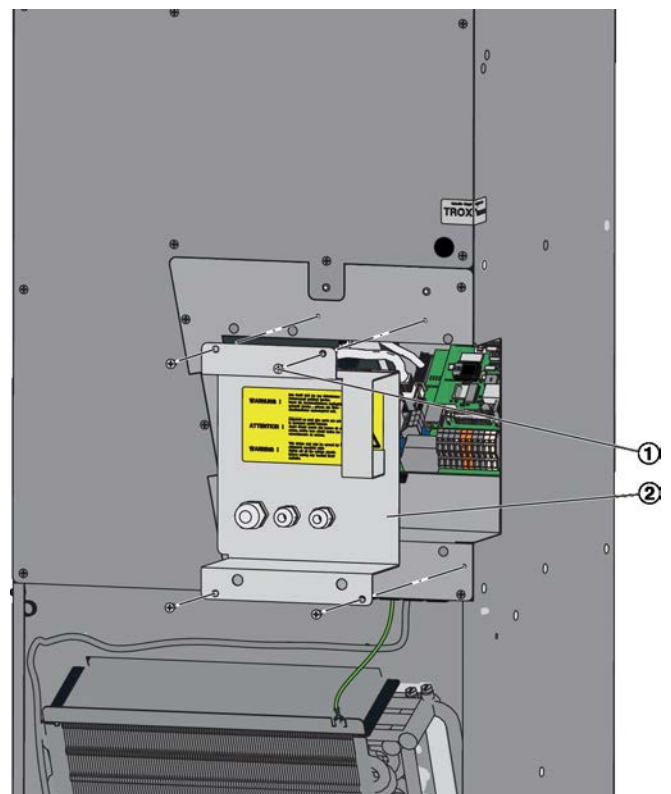

Fig. 5: Electrical connections
1. ▶ Take off the controls access panel (Fig. 5/2); to do so, loosen the Phillips screws (Fig. 5/1), then remove the panel.